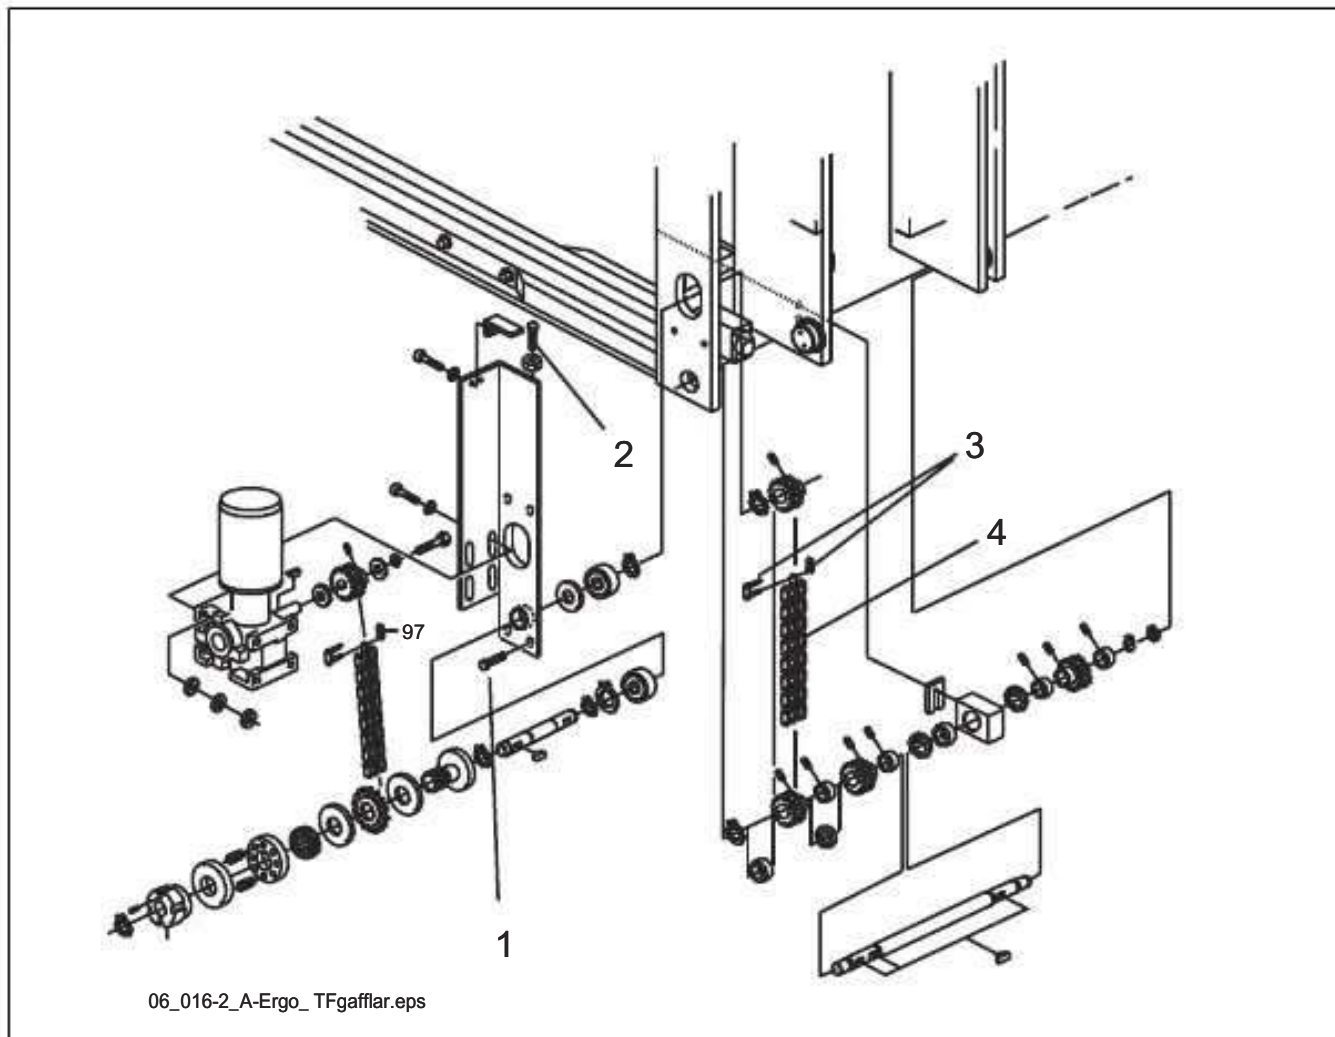

**Figure 6.30** Chain tensioning bolt
5. Release the bolts, pos. 1, just enough to be able to adjust the chain tensioning bolt, pos. 2. Screw the bolt to the left so that the chain slackens and the chain lock, pos. 3 and 4, can be removed, see figure 6.30.